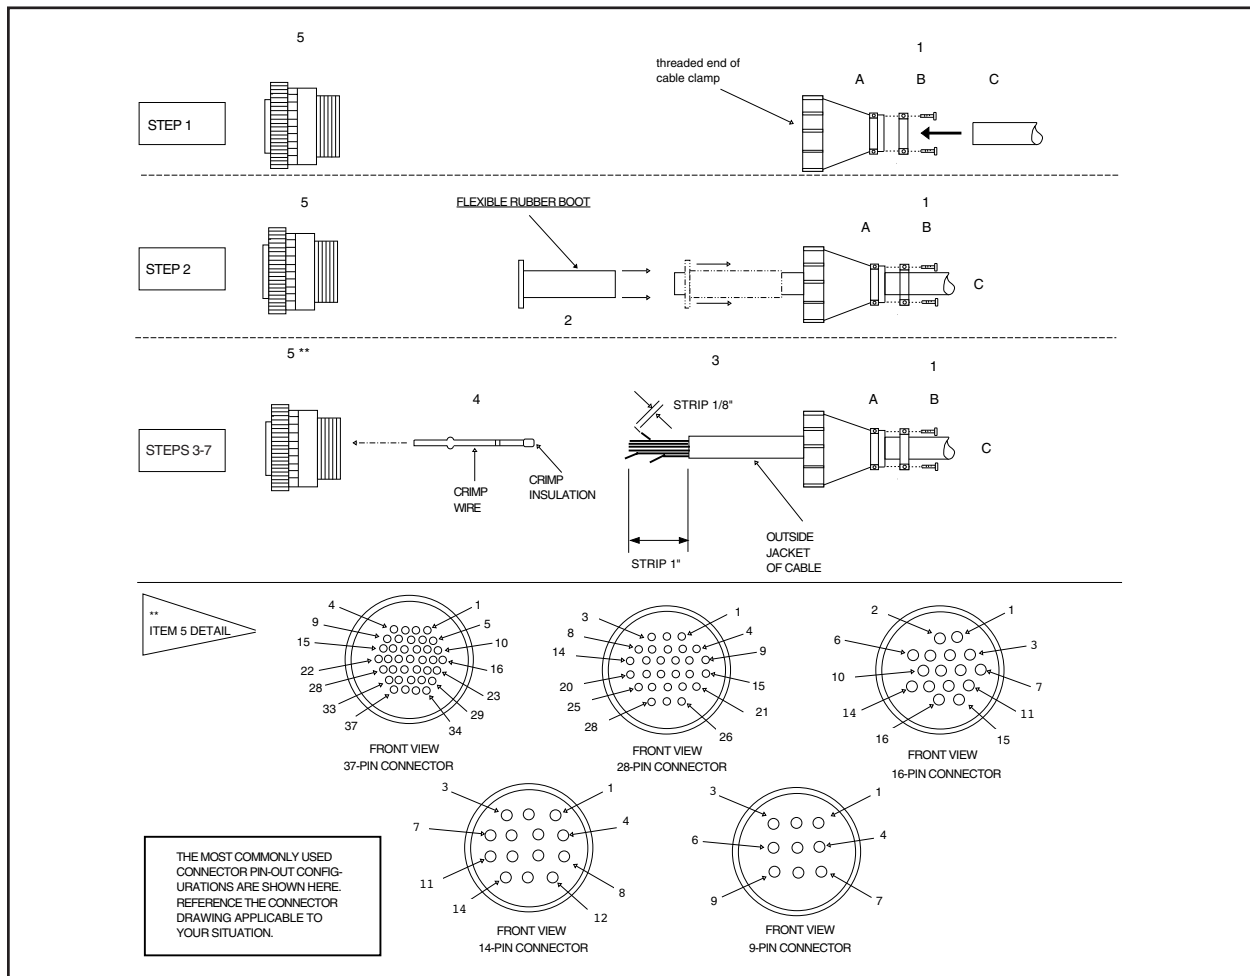
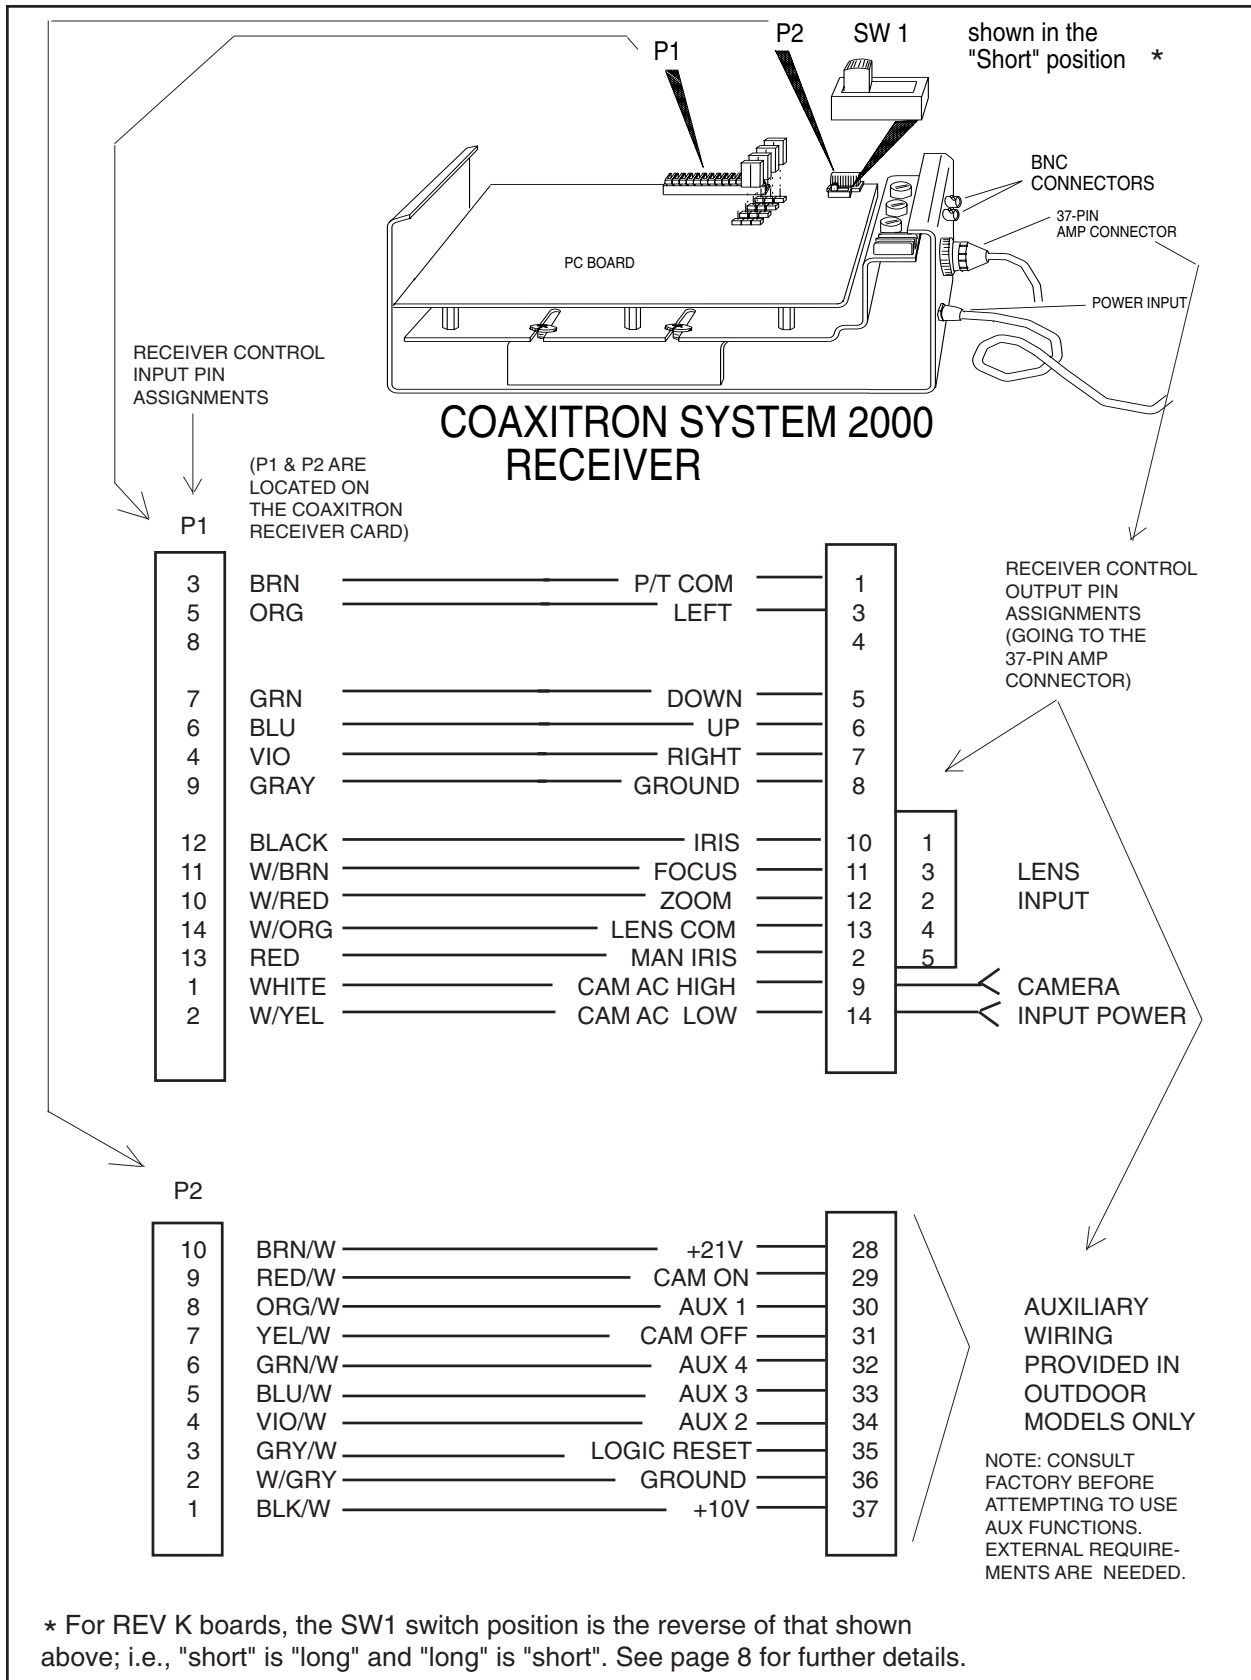
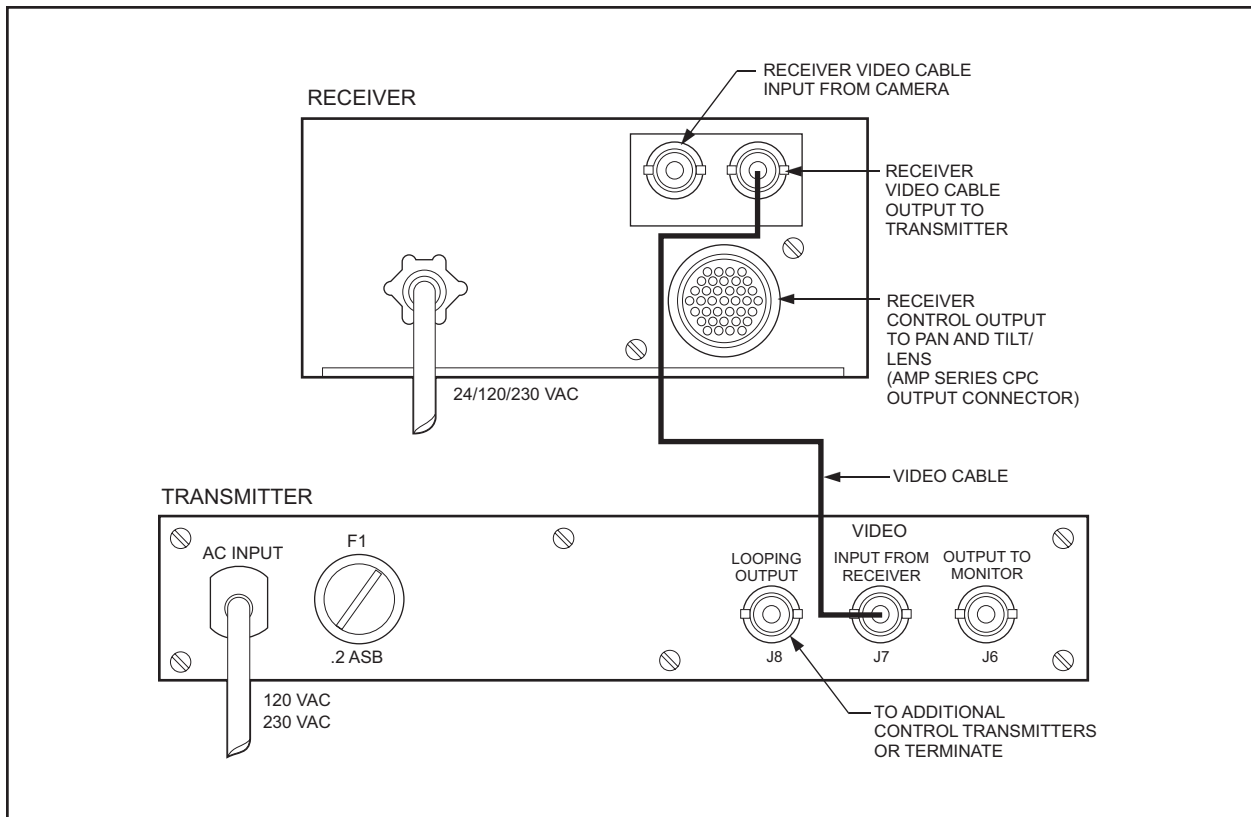

Figure 4. Connector Assembly
Figure 5. Receiver Control Output/Input Pin Assignments
Figure 10. Coaxitron System 2000 Basic Interconnect Diagram
Coaxitron System 2000 installation includes the connection of all coaxial cable to the proper connectors, depending on your system configuration. Various connector assembly pin-out geometries are shown in Figure 4. Connector location and pin assignments are illustrated in Figure 5.
Installation and/or testing will require you to assemble the connector parts provided. Fabricate the interconnecting cable according to the following steps (reference Figure 4).
6. Slide part A of the cable clamp toward the connector and screw the parts together. Attach part B (item 1) onto part A and connect both parts with the screws provided.
7. Connect the cable assembly to the unit and seat the connector by twisting the locking collar until it snaps into position (see Figure 5 and Figure 10).
The switchers depicted in Figure 10 are hard contact devices and do not have isolation or bridging amplifiers. In each case, the Coaxitron transmitter acts as the isolation or bridging amplifier. **Do not** use VA500 series switchers with Coaxitron systems.
Note: For configurations where RG59 cable length between the transmitter and receiver exceeds 750 feet, it is necessary to reset switch SW1 on the receiver board (PCB1500529) from SHORT to LONG. The switch should be left in the SHORT position when using shorter lengths of RG59 cable or when using RG11 cable (see Figure 5). For RG11 cable, the upper limit is 1800 ft. In any case, these operating distances can be extended by using the EA2000. See the table on page 26.
Coaxitron System 2000 basic interconnections between the transmitter and receiver are shown in Figure 10. If you have chosen a configuration that includes a switching device, refer to the manual provided with the switcher for the appropriate connections.
The transmitter is housed in a 1-3/4" high enclosure, supplied as a desk top unit (rack mount available). Three video connectors (J6, J7, J8) are located on the rear rail (see Figure 10). J8 allows the user to loop the camera signal from one transmitter to another, or to terminate the signal by installing the appropriate resistor. Connector J7 accepts the camera signal from the receiver, and J6 provides an output for monitoring equipment.
surface for entry of AC power line (120/230/24 VAC). (See Figure 10.)
Normally, this is the video signal from the camera serviced by the receiver. The receiver provides a 75 ohm cable termination and an isolation amplifier to prevent the control pulse train from being fed to the camera. (See Figure 10.)
All control signals from the receiver are available from an AMP Series CPC output connector, except for optional auxiliary functions. (See Figure 10.)
The usual output for camera power is 24 VAC accessed at pins 9 and 14 of the 37-pin AMP connector (see Fig. 5) where CAM AC HIGH and AC LOW emerge as CAMERA INPUT POWER. The output pin assignments remain the same for 12 VDC camera power options, only now pin 9 (WH) is positive (+) and pin 14 (WH/YEL) is negative (-).
The transmitter usually provides for the 75 ohm termination of the cable from the receiver. However, the user may alter this termination in order to loop through and terminate further downstream. (See Figure 10.)
WARNING: Power for enclosure models utilizing heater/blowers cannot be tapped off the secondary of the Coaxitron receiver transformer or off of camera AC power (see Figure 5, Pins 9 and 14). Instead, for example, enclosure power for these purposes could be run off of the primary of the Coaxitron transformer and routed to the enclosure via unused Pins 15 and 16 of the 37-Pin connector.